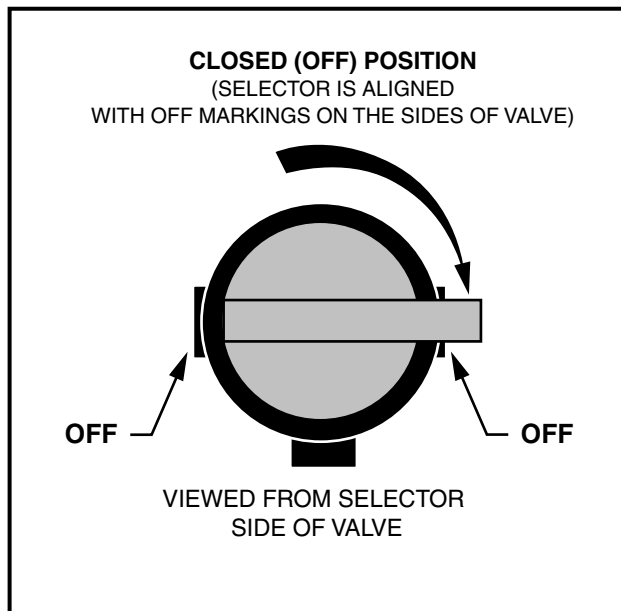

Figure 3-6 Fuel Shut-off Valve – Closed Position
- Turn fuel shut-off valve to closed (**OFF**) position (**Figure 3-6, Page 3-6**).
- 4.1. Place the Forward/Reverse handle in the NEUTRAL position and the neutral lockout cam in the SERVICE position. Turn the fuel shut-off valve to the closed (OFF) position (**Figure 3-6, Page 3-6**) and run the engine until fuel remaining in the carburetor and fuel lines is depleted and the engine stalls. Return the neutral lockout cam to the OPERATE position.